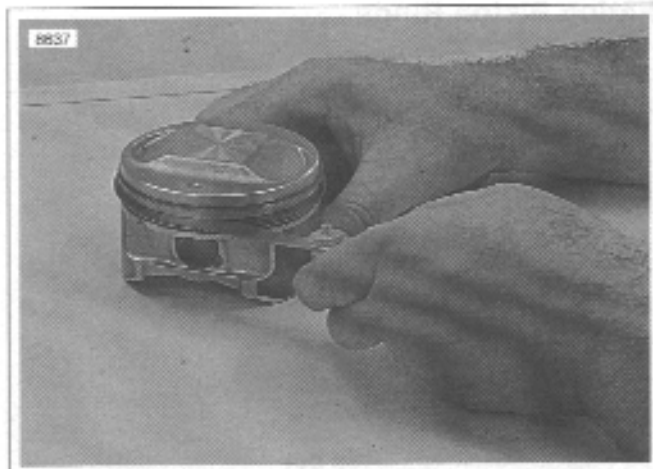

Figure 3-101. Measuring Ring Clearance in Groove
- See Figure 3-101. Check for proper side clearance with thickness gauge, as shown. See 3.1 SPECIFICATIONS.